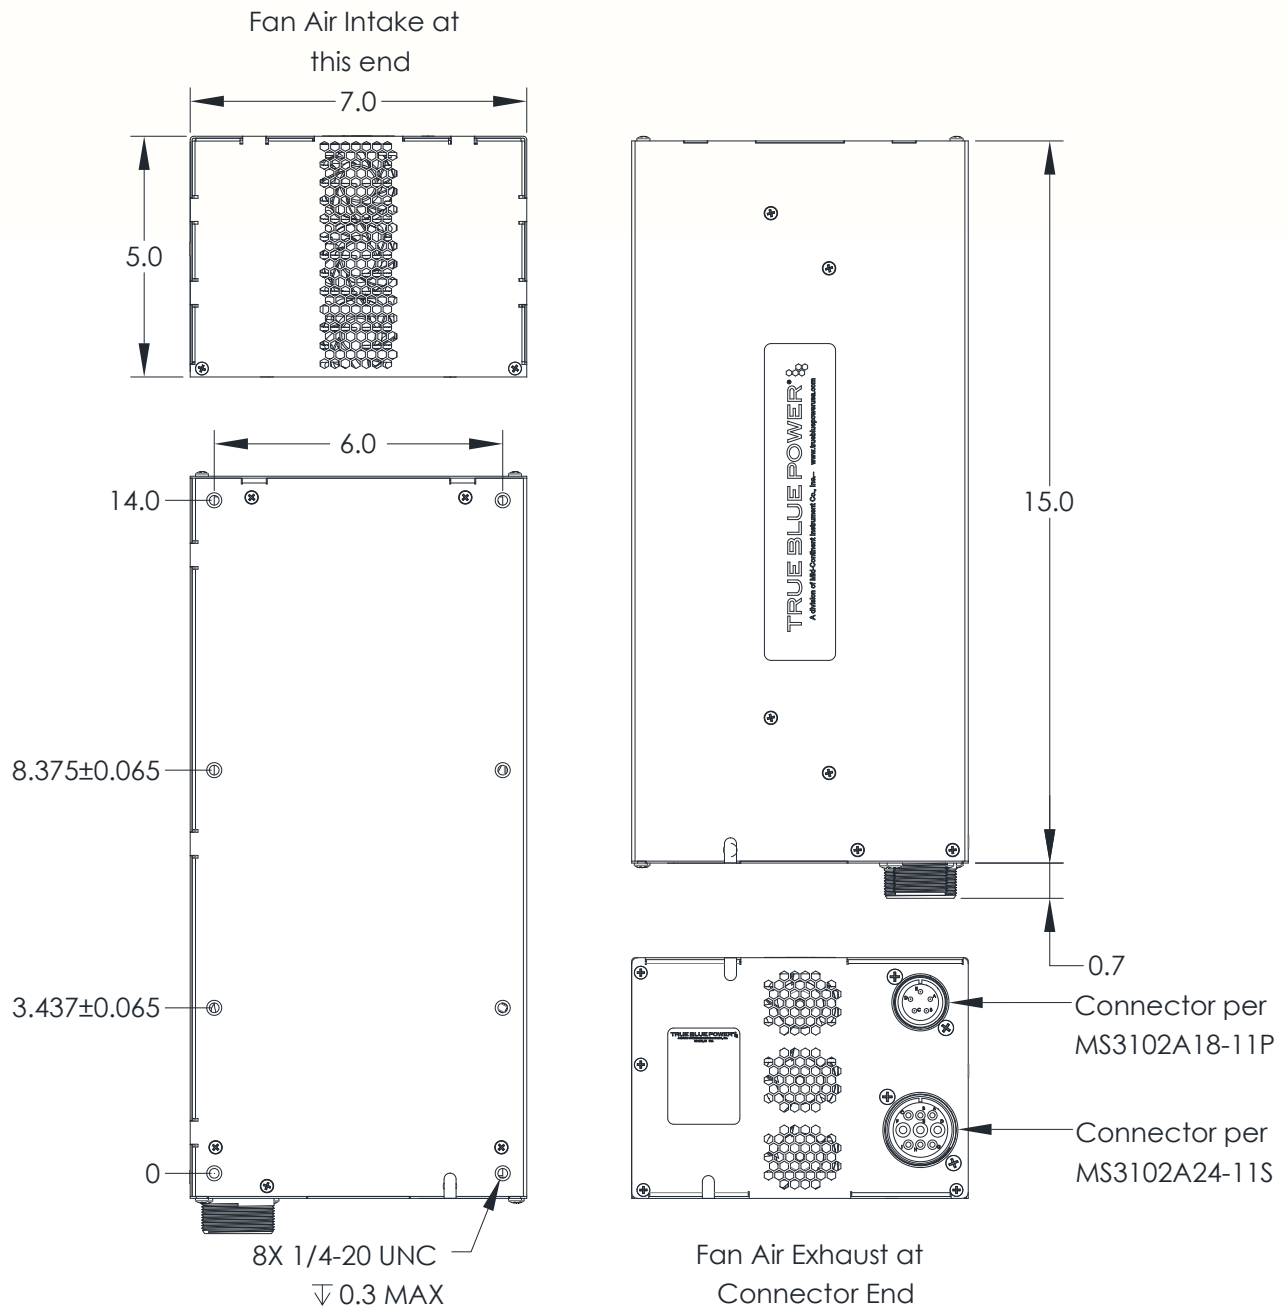

Figure 3.3
The TFC4000 Series Frequency Converter is designed for base mounting only (in any orientation). The unit includes eight (8) threaded mounting holes for securing it to the aircraft. Eight thru holes for ¼-20 bolts or screws should be provided in the aircraft in accordance with Figure 3.3. Secure the unit with eight ¼-20 bolts, pan head Phillips screws, or equivalent.